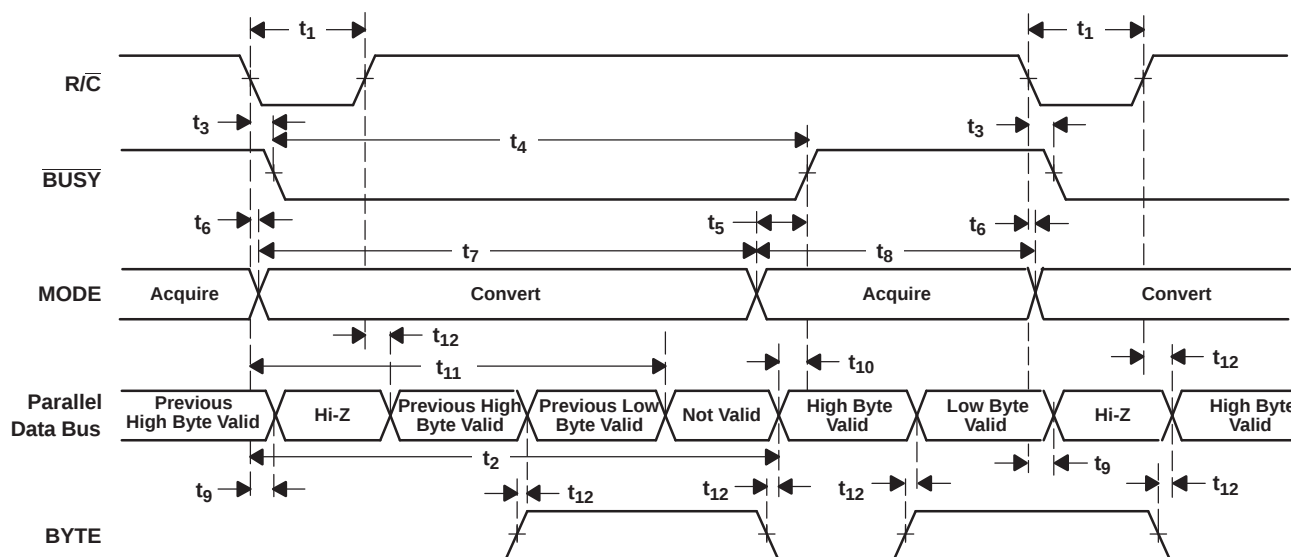
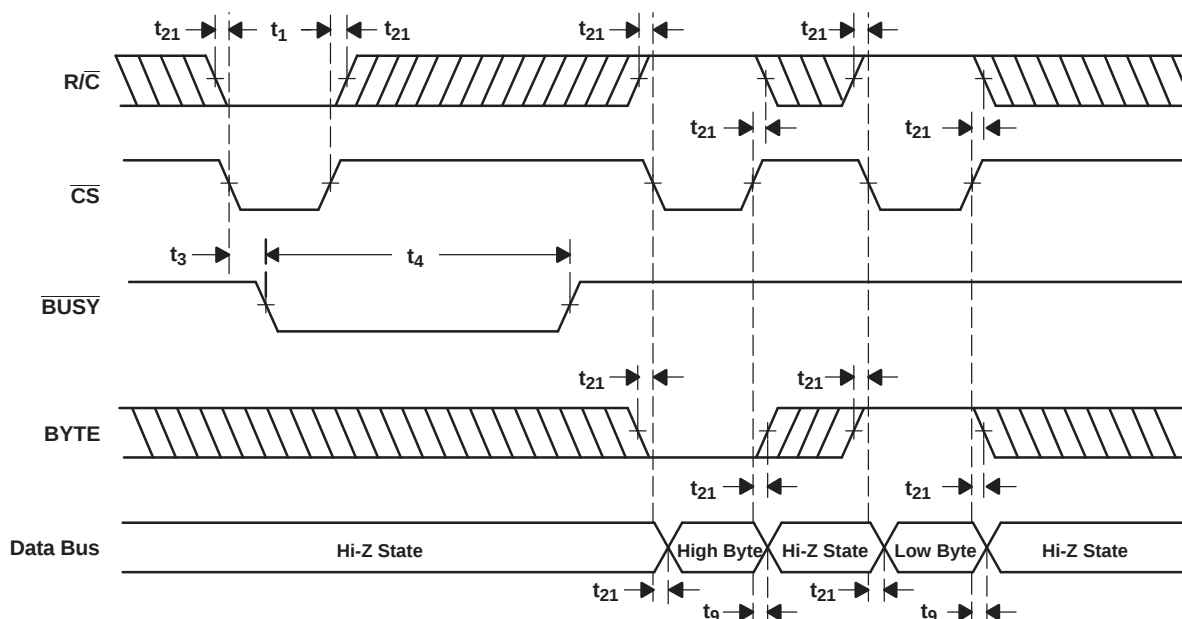

Figure 33. Conversion Timing With Parallel Output ($\overline{\text{CS}}$ and DATACLK Tied Low, $\overline{\text{EXT/INT}}$ Tied High)
Figure 34. $\overline{CS}$ to Control Conversion and Read Timing With Parallel Outputs
The ADS8507 begins tracking the input signal at the end of the conversion. Allowing 25 μ s between convert commands assures accurate acquisition of a new signal. Refer to Table 2 and Table 3 for a summary of $\overline{CS}$, $R/\overline{C}$, and $BUSY$ states, and Figure 33, Figure 34, Figure 35, Figure 36, Figure 37, Figure 38, and Figure 39 for timing diagrams.
(1) See Figure 33 and Figure 34 for constraints on data valid from conversion $N-1$.
After conversion N is completed and the output registers have been updated, $\overline{\text{BUSY}}$ (pin 24) goes high. Valid data from conversion N is available on D7-D0 (pin 9-13 and 15-17). $\overline{\text{BUSY}}$ going high can be used to latch the data. Refer to Table 5 and Figure 33 and Figure 34 for timing specifications.
After conversion N has been initiated, valid data from conversion $N-1$ can be read and is valid up to 12 μs after the start of conversion N . Do not attempt to read data beyond 12 μs after the start of conversion N until $\overline{BUSY}$ (pin 24) goes high; this may result in reading invalid data. Refer to Table 5 and Figure 33 and Figure 34 for timing constraints.